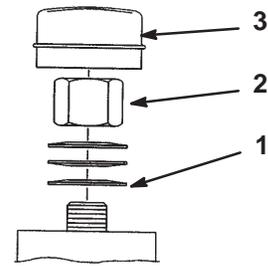

Figure 39
2. Remove dust cap from caster and tighten lock nut (Fig. 39).
3. Tighten until spring washers are flat and then back off a 1/4 turn to properly set the pre-load on the bearings (Fig. 39).
Important Make sure spring washers are installed correctly as shown in figure 39.